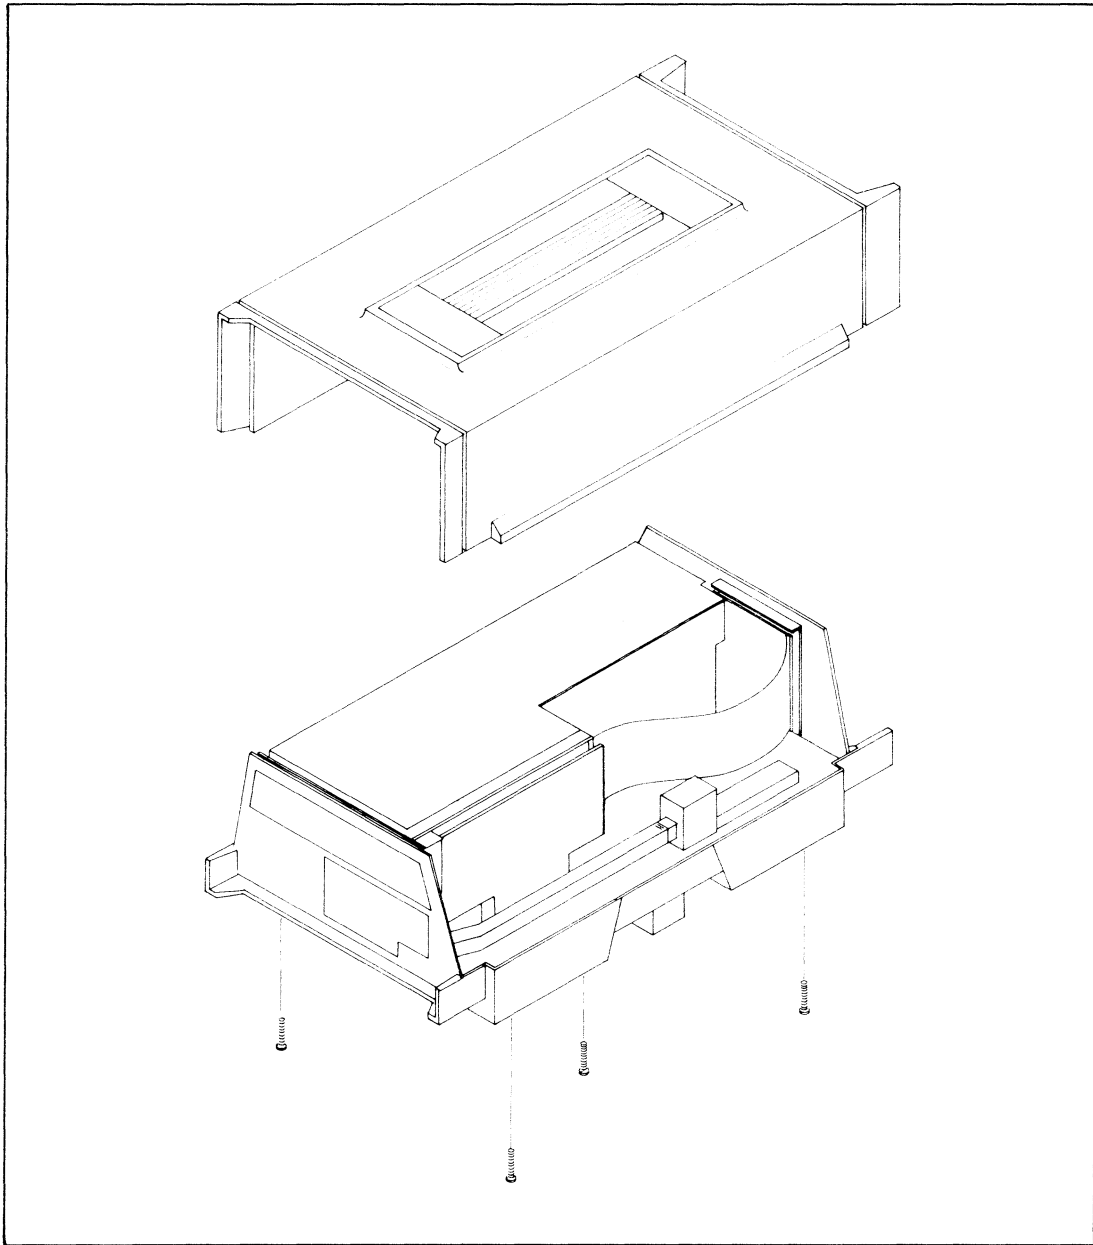

Figure 3-1. Switch and Calibration Adjustment Access
5. Using the case handle, pull the top cover up and off of the unit. See Figure 3-1. Both the front and rear panels should remain with the bottom half of the instrument.